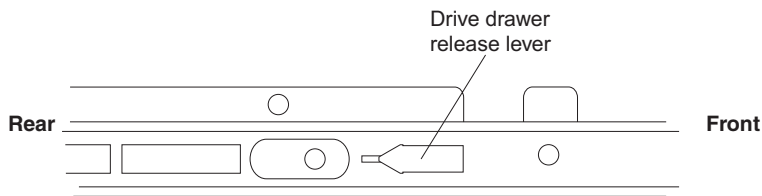

Figure 88. Drive drawer release lever on the side of the drive drawer
- d. Slide the drive drawer release lever (see Figure 88) on both sides of the drive drawer toward you, and remove the drive drawer from the enclosure.